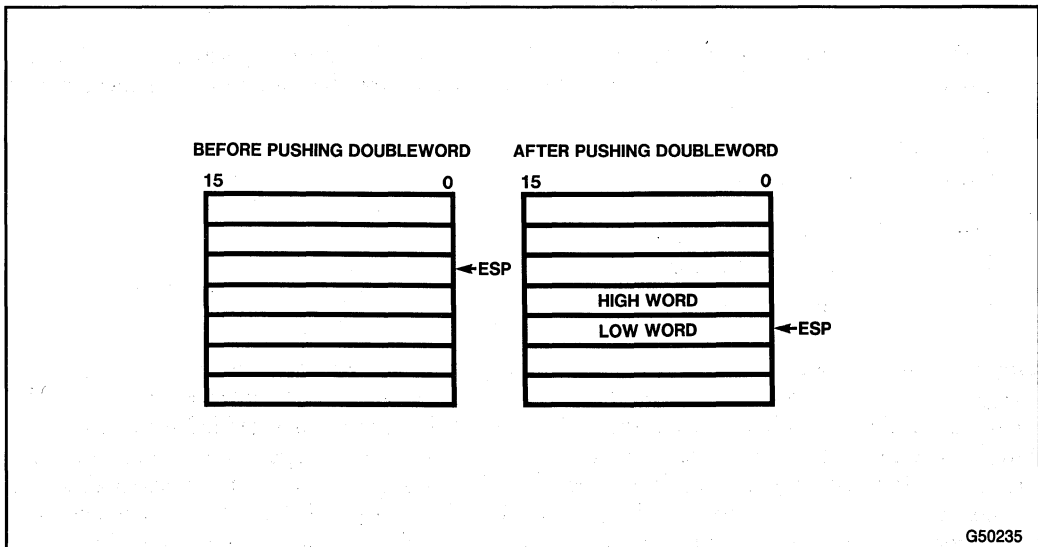

Figure 3-1. PUSH Instruction
**PUSH (Push)** decrements the stack pointer (ESP register), then copies the source operand to the top of stack (see Figure 3-1). The PUSH instruction often is used to place parameters on the stack before calling a procedure. Inside a procedure, it can be used to reserve space on the stack for temporary variables. The PUSH instruction operates on memory operands, immediate operands, and register operands (including segment registers). A special form of the PUSH instruction is available for pushing a 32-bit general register on the stack. This form has an encoding which is one byte shorter than the general-purpose form.